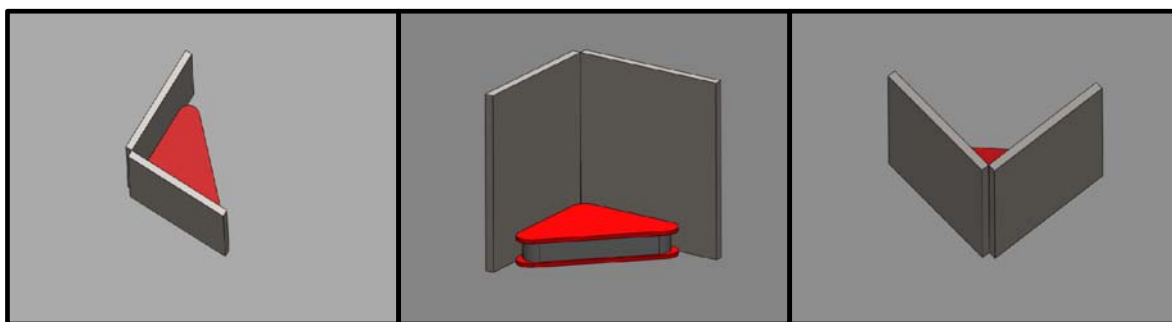

Figure 5: Setting up for the first tacks
Step 5: Position two of the six steel coupons for tacking at a right angle to each other as shown in Figure 5 using a **Welding Magnet**.